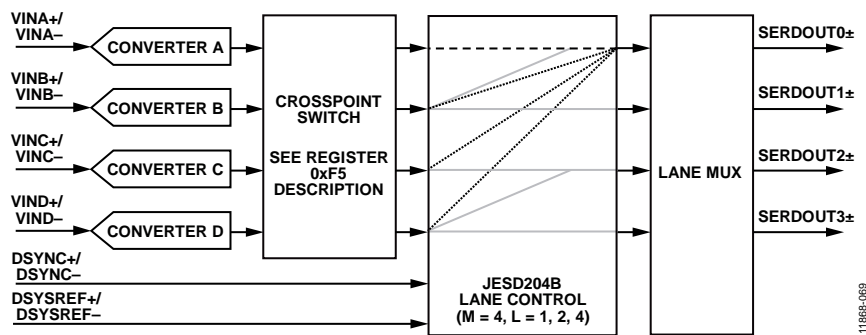

Figure 64. AD9656 Transmit Link Simplified Block Diagram
- Option to remap converter (logical lane) and SERDOU_{Tx±} (physical lane) assignments: Register 0x82 and Register 0x83. See Figure 64 for a simplified block diagram.